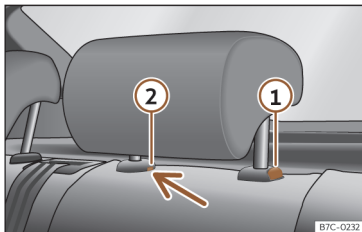

Fig. 100 Rear headrest: removal.
- Press button >>> Fig. 100 ①, while simultaneously pressing on the security hole ② with a flat screwdriver a maximum of 5 mm wide, and remove the headrest.